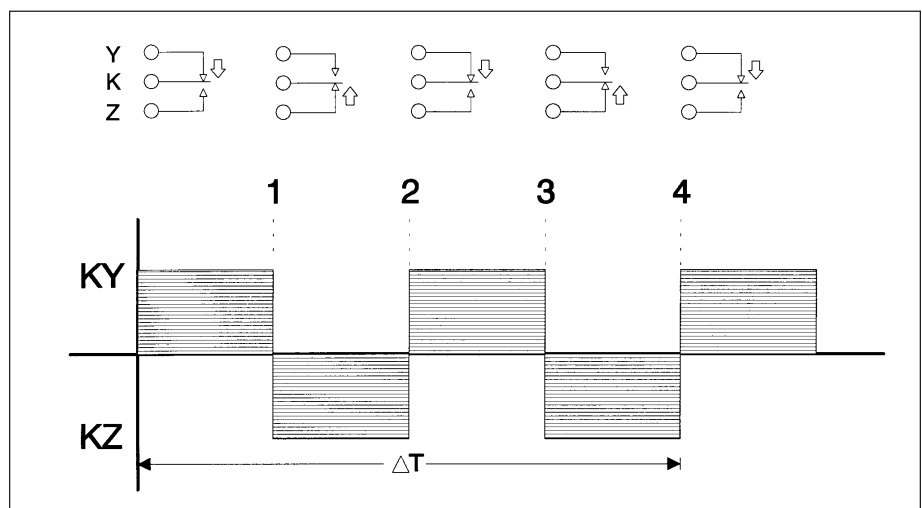

Figure 3-4: 3-wire pulse train
Some pulse initiator applications require all three wires provided with a KYZ pulse initiator. This is referred to as a 3-wire pulse initiator application. Figure 3-4 shows a pulse train for a 3-wire pulse initiator application. Refer to this figure when reading the following points:
- In figure 3-4 the transitions are marked as 1, 2, 3, and 4. Each transition represents the time when the relay flip flops from KY to KZ, or from KZ to KY. At points 1, 2, 3, and 4, the receiver should count a pulse.